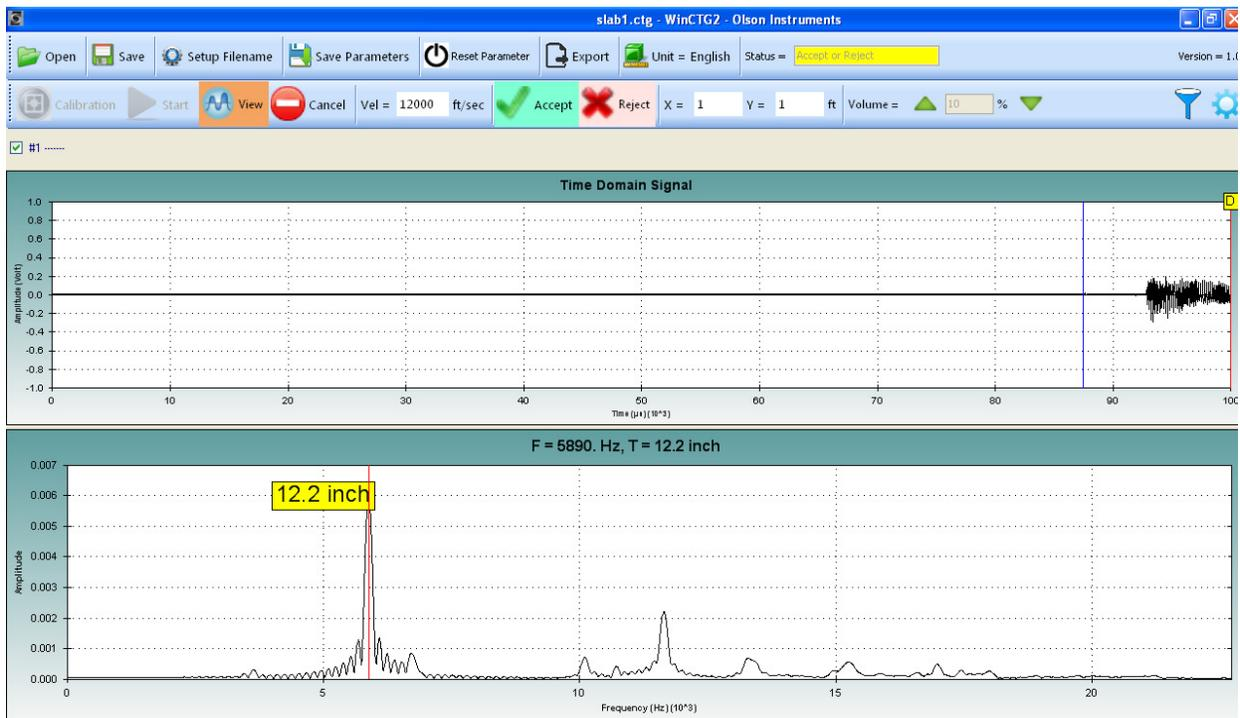
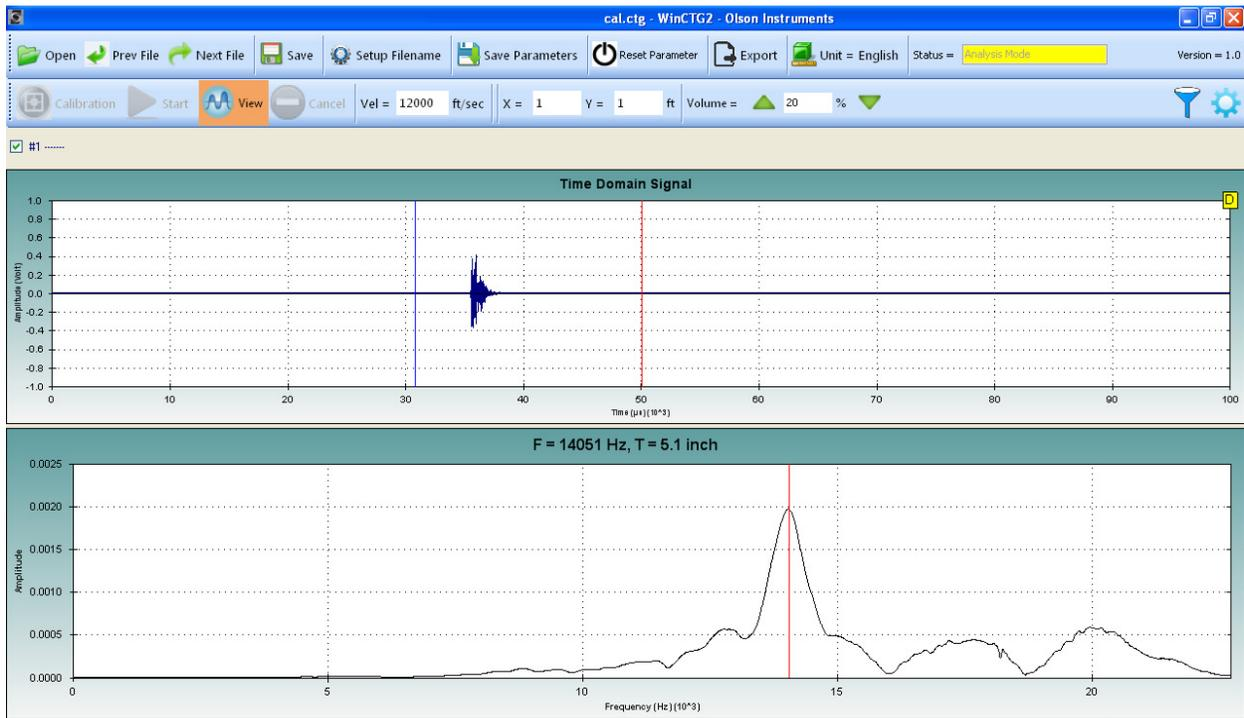

Figure 6 – Data Displayed with Thickness Reported above the Frequency Spectrum Plot
Figure 7A – Example of Good Data and a Single Prominent Peak in the Frequency Spectrum
6. With the IE head powered up and the green light on the top of the handle illuminated, press the trigger button on the underside of the handle. The unit will fire the solenoid on the CTG-2 head and create an impact. The displacement transducer sensor on the CTG-2 head will record the data and the software will display the data on the screen as shown in Figure 6 below. The program is now waiting for you to either accept or reject the data as reported in the “Status” field which is currently in “Accept or Reject” mode.
7. Good data can be identified by a waveform signal in the Time Domain (top plot) that ranges from 0.1 volt to 0.8 volt AND the presence of a prominent peak in the Frequency Spectrum (bottom plot). (In Figure 6 above, the data was collected on a 6" x 12" cylinder so there are additional resonant peaks displayed in the data.) The following Figures 7A through 7D, demonstrate both acceptable and unacceptable data. It is recommended to verify repeatability of results by taking at least two tests at the same location.